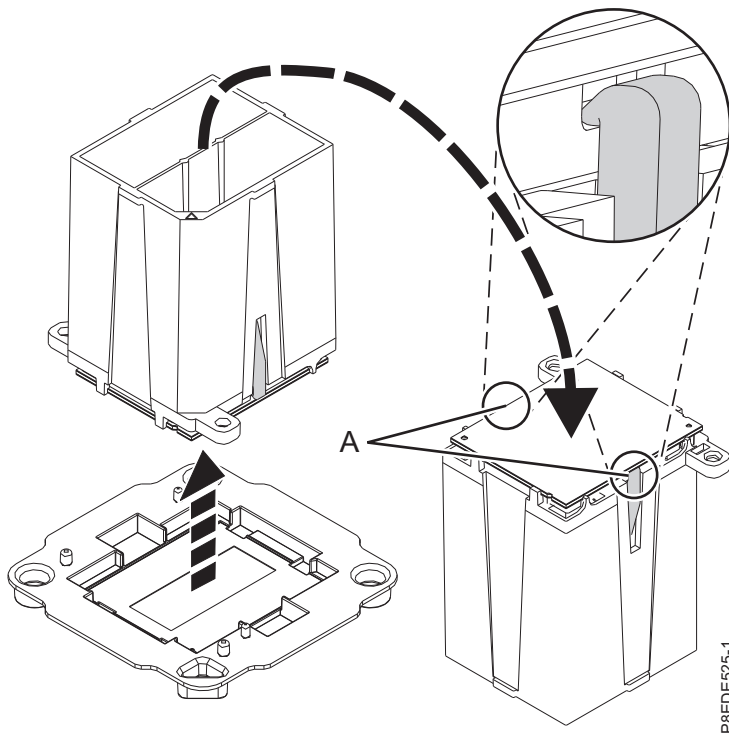

Figure 11. Preparing for system processor module installation
- b. Ensure that both jaws (**A**) are firmly grabbing the system processor module, as shown in Figure 11.